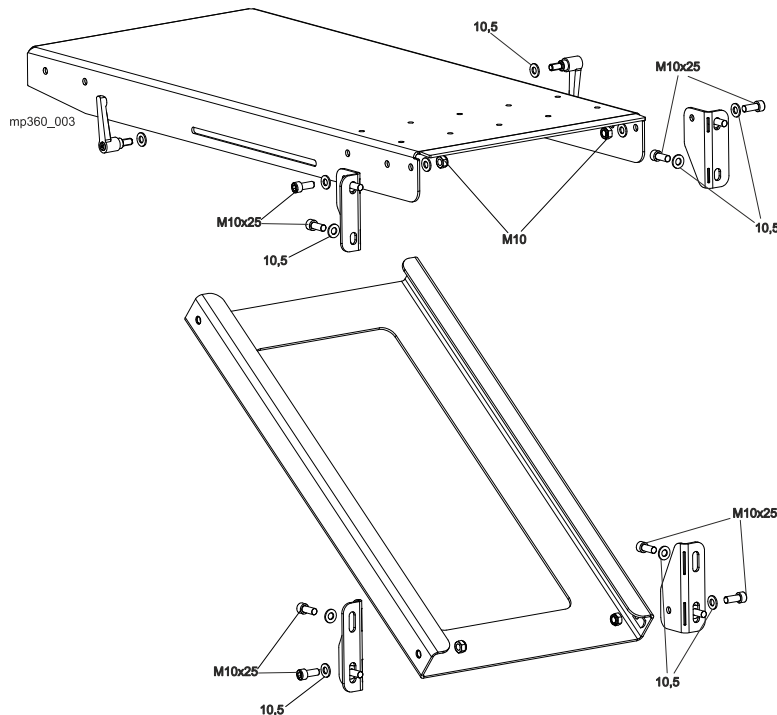

FIG. 3-3
3. **Outfeed table.** Mount the outfeed table according to the figure below. See Figure 3-3.